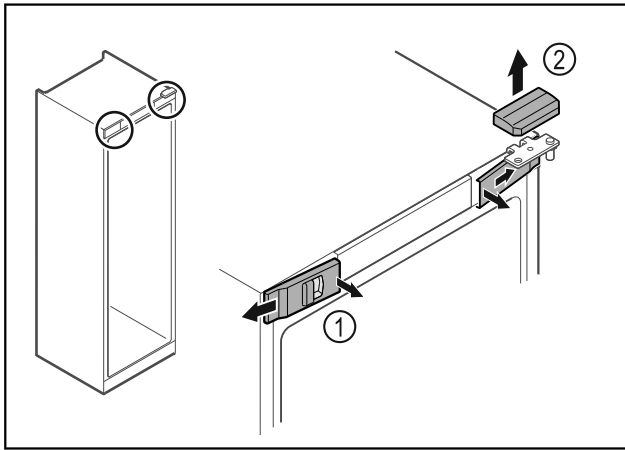

Fig. 8
- ▶ Unlatch the front covers Fig. 8 (1) on the inside and remove them sideways.
- ▶ Lift off the upper cover Fig. 8 (2).